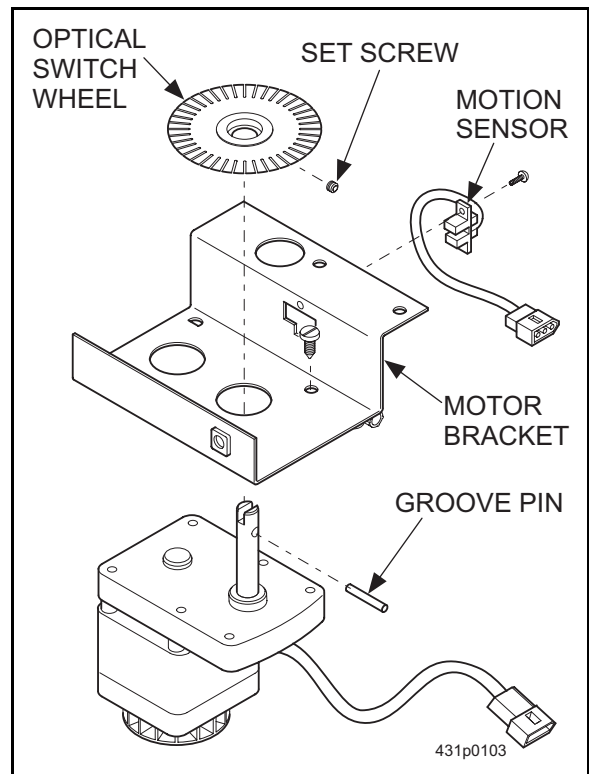

Figure 24
2. Remove the two screws securing the motion sensor to the motor bracket. Remove the motion sensor (figure 24).